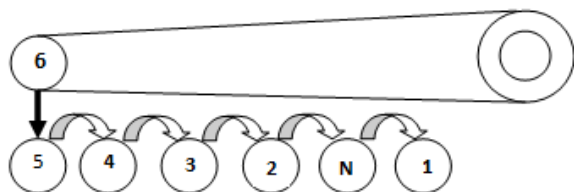

Figure 12. Downshift Pattern
- Push the lever down to shift the transmission to the next lower gear. See figure 12.